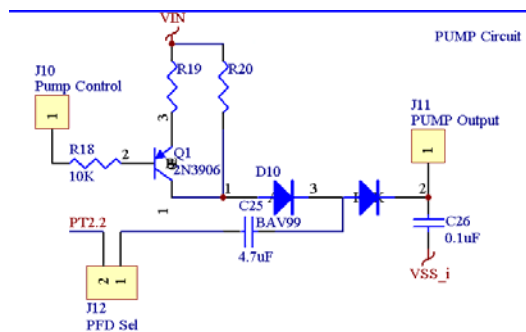

Figure 23
- ◆ D10: Is small package, SOT-23, Signal diode, as shown in Figure 23.